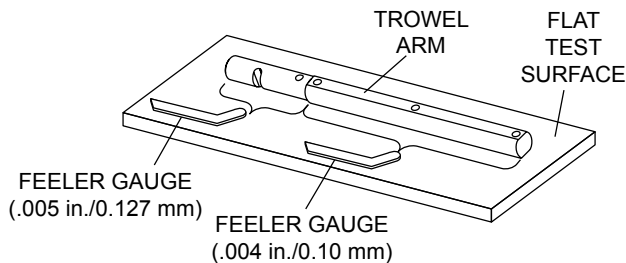

Figure 39. Checking Trowel Arm Flatness
arm will not allow the trowel to operate in a smooth fluid rotation. If bent trowel arms are suspect, check for flatness as shown below. Reference Figure 39:
2. Check each of the six sides of the trowel arm (hex section). A feeler gauge of .004" (0.10 mm) should not pass between the flat of the trowel arm and the test surface along its length on the test surface. (Figure 39) .